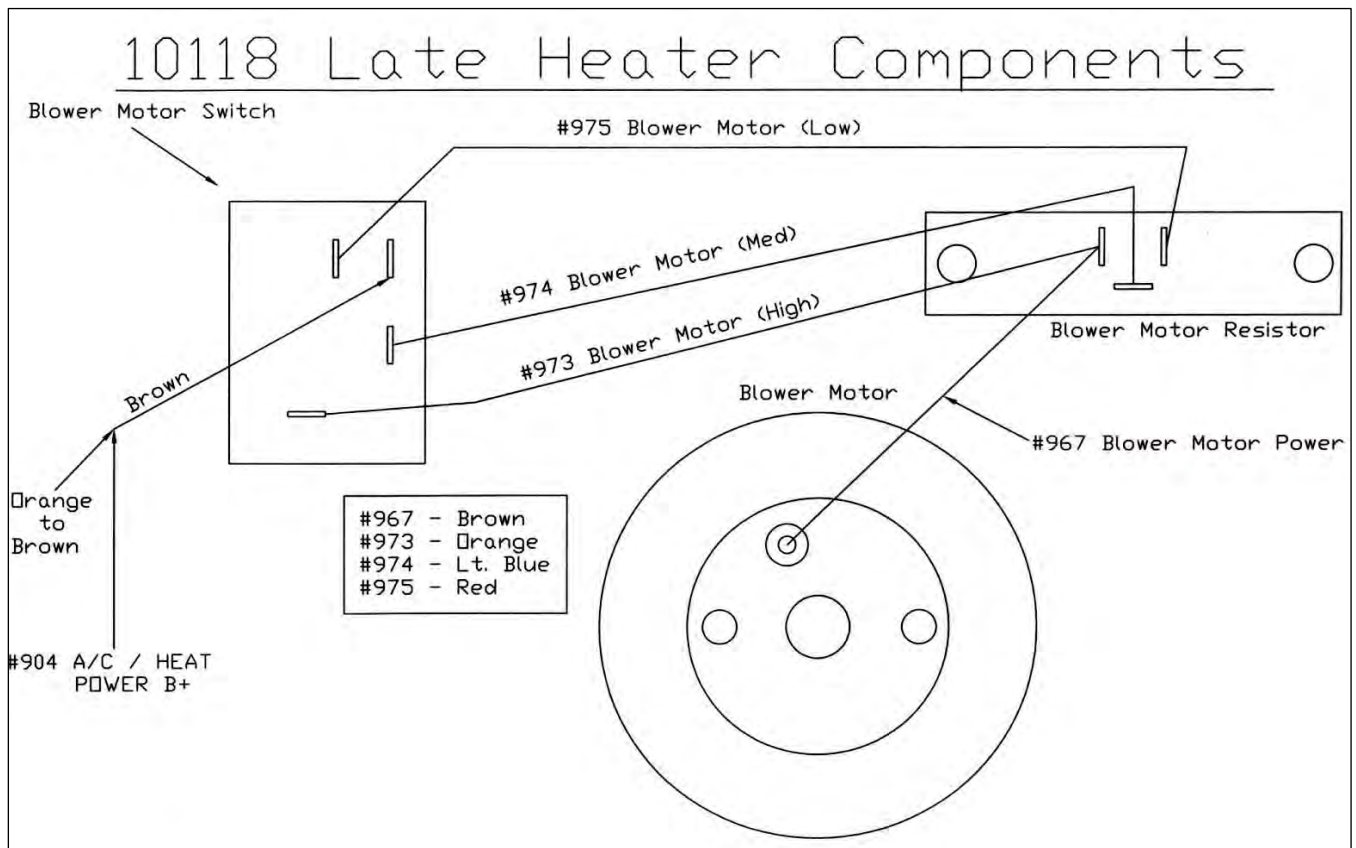

Figure 7-30 Heater Harness Installation for 1973-1977 years only.
7.14.3 For all 1973-1977 Ford Trucks with a factory heater and no Air Conditioning, locate the Heater Harness in the parts kit and install as shown below in **Figure 7-30**.